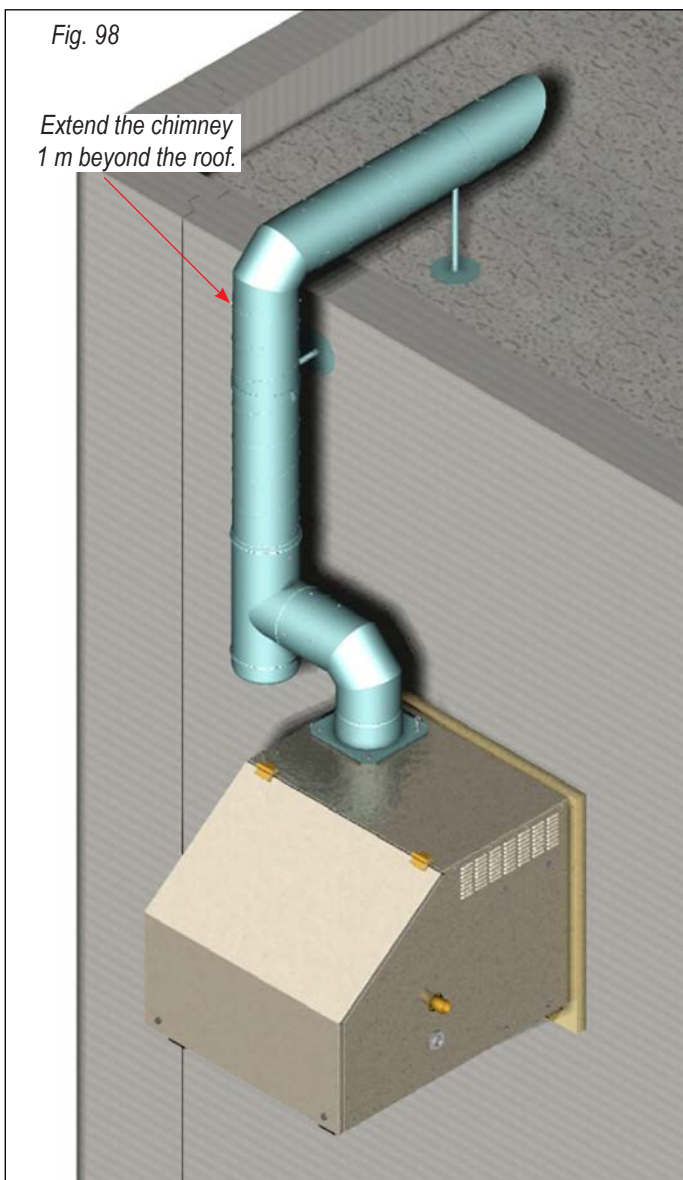

Fig. 98
The making of the exhaust gas duct for generators models GSR 200.1, GSR200.2 and GSR 300.1 installed on the wall with water trap device is shown in figs. 98 and 99. The pieces of **chimney tube (5)** must be **cut during installation**. The diagram of the assembly of various components described in the following is shown in fig. 99: 1 Exhaust terminal; 2 Elbow; 3 Support collar; 4 Collar bearing foot; 5 Chimney tube; 6 Pipe fitting; 7 Generator exhaust gas duct connection.